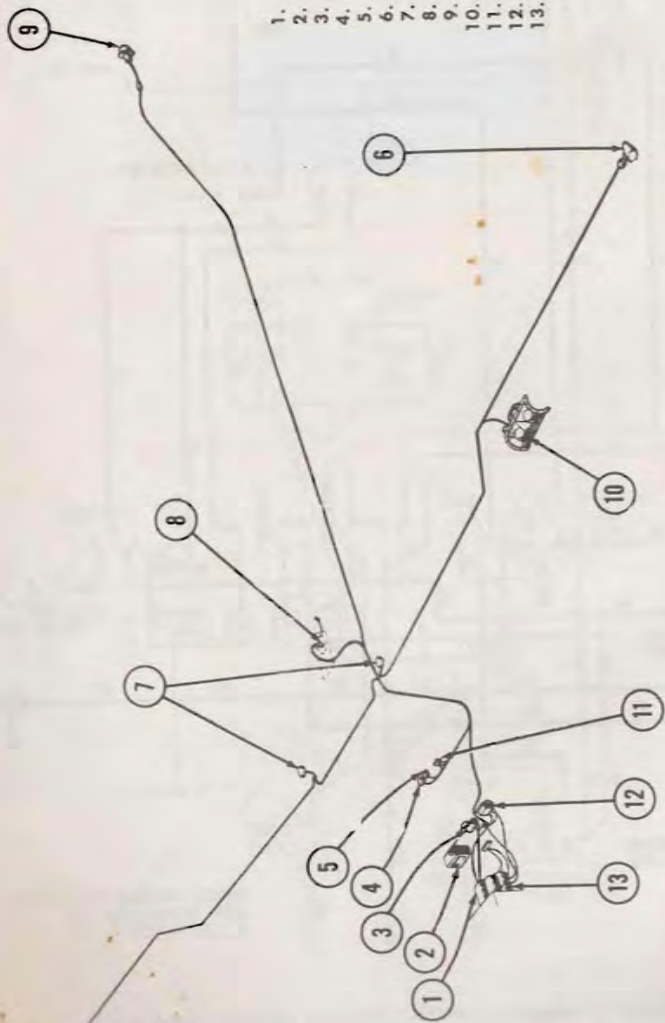

Figure 58—Electrical System (Model 108-3)
1. The electrical system of these airplanes is a 12-volt, direct-current, single wire system. (Refer to figures 56 through 59). All electrical equipment is grounded to the metal structure of the airplane, and this structure takes the place of the second wire which would otherwise be required. The battery stores electrical energy and is the source of power when the generator is not operating. When the generator is operating, it is a source of power and also charges the battery. Both the battery and the generator are connected to a bus bar. All electrical equipment, except the starter, is powered from the bus bar. The starter is powered from the load side of the battery relay. Figures 58 and 59 illustrates the electrical wiring and connections.